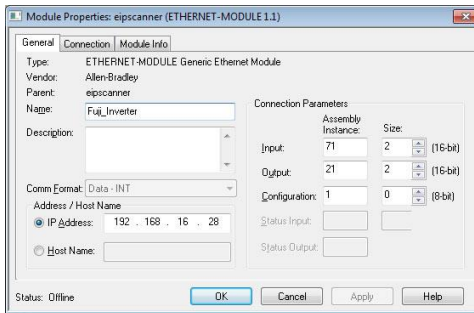

Figure 45: AC/DC Drive Profile Generic Ethernet Module Configuration
- 1) Complete all the steps in section 10.2.11. Please note that the Assembly Input Instance must be changed to 71 and the Assembly Output Instance must be changed to 21. Refer to Figure 45.